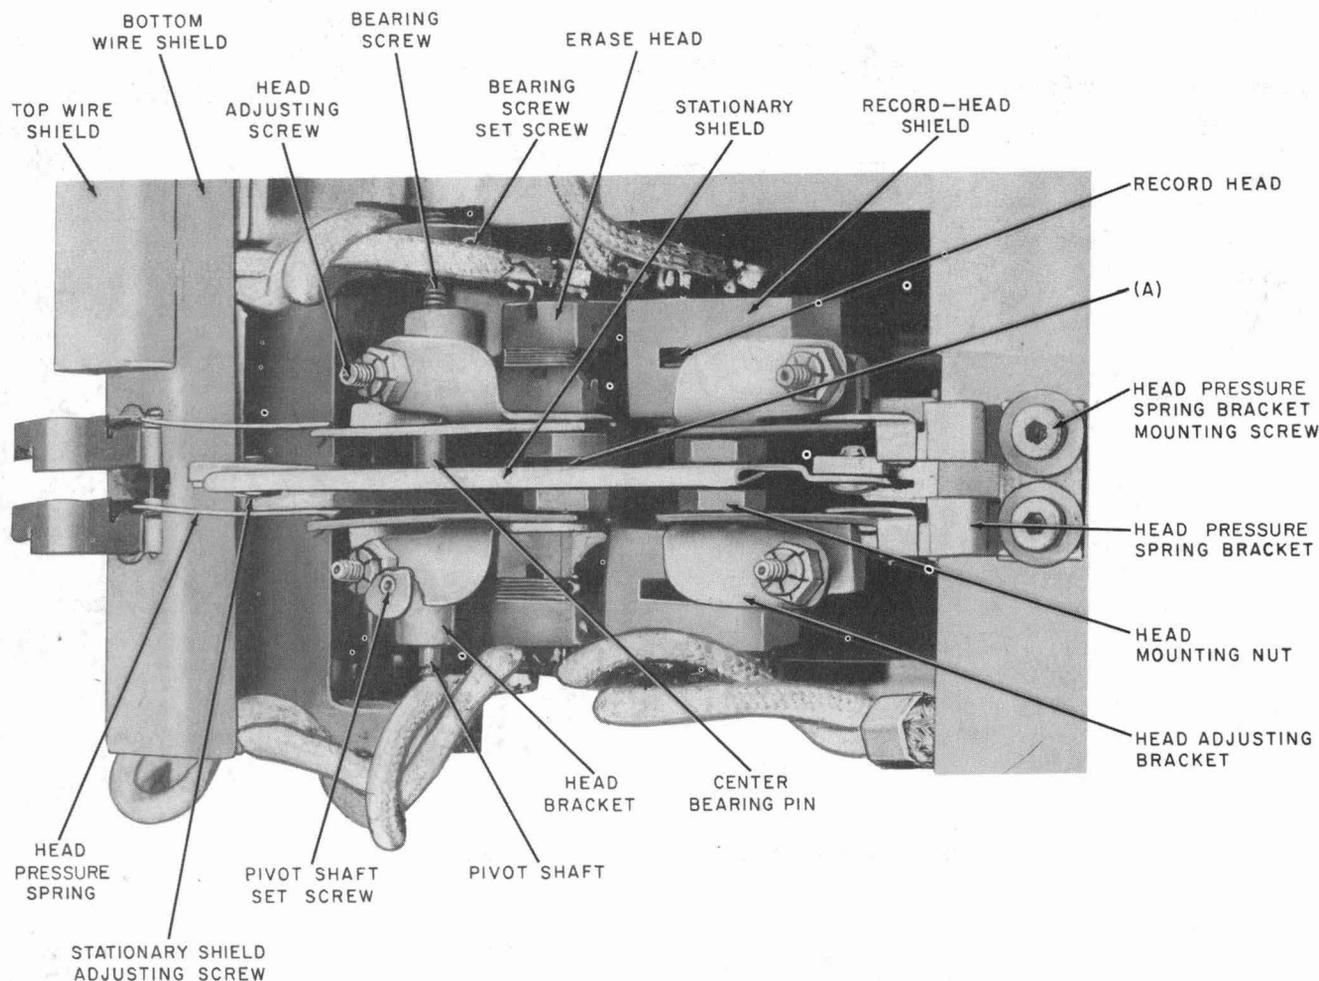

Fig. 6—Erase and Record Heads as Viewed from Top
(5) Set the REPRODUCE gain control of the associated amplifier to give a convenient TMS meter indication. Using the 245 wrench, partially loosen head mounting nut (Fig. 6) to permit slight rotation of the record head in its mounting. Using the R-2958 wrench, turn the head adjusting screw in or out, as required, to rotate the magnetic gap of the head into a position on the recording band that gives the maximum TMS meter indication. Then securely tighten the head mounting nut.
(6) Record a new tone on the band as described in (4) and readjust the amplifier REPRODUCE gain control until the TMS meter indicates  $-9$  dB.
(7) After the test has been completed, disconnect the 23A TMS and remove the patching cords from the TST IN, TST OUT, and  $-10$  dBm jacks.
(1) Following the procedure given in Section 231-024-501, record a 1000-Hz tone on the channel under test. (Announcing trunks are numbered 0 through 5 and connect with recorder channels 1 through 6, respectively.)
(2) Connect a 23A TMS to the TMS jack.
(3) Connect a 52N telephone headset to the HS jack.
(4) Using the 245 wrench, partially loosen the head mounting nut (Fig. 6) to permit slight rotation of the record head in its mounting.
(5) While monitoring the test tone, use the R-2958 wrench to turn the head adjusting screw in or out, as required, until a maximum voltage indication is obtained on the meter. Then securely tighten the head mounting nut. Adjust the amplifier REPRODUCE gain control until the TMS meter indicates  $-9$  dB.
(6) After the test has been completed, remove the telephone headset plug from the HS jack and disconnect the 23A TMS from the TMS jack.
**2.08 Freedom of Movement:** Head assemblies (Fig. 6) shall move freely on their bearings. Check by eye and feel. To check this requirement, raise the head assembly about 1/4 inch and note if the head drops onto the recording band without hesitation.
(b) **Fig. 6(A):** The stationary shield shall clear the mounting nuts of the adjacent heads.